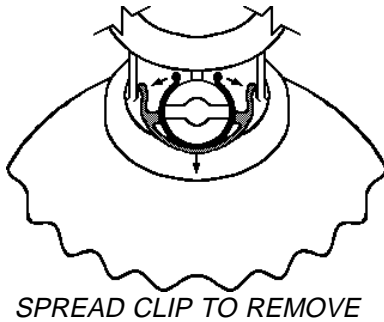
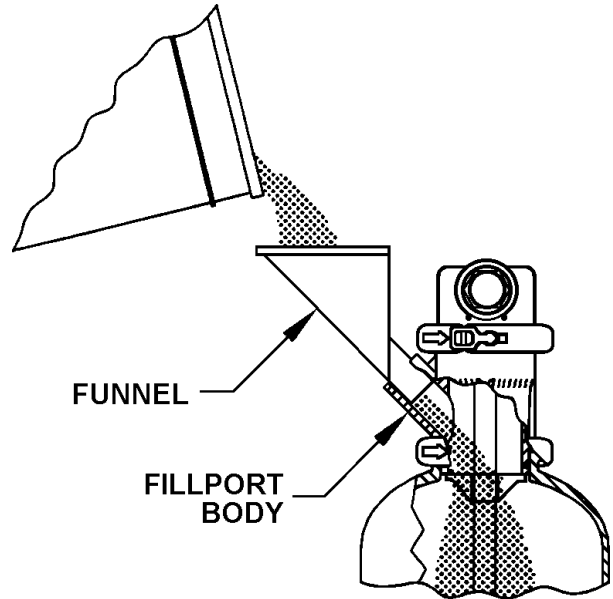

Figure 4. FILLPORT CAP REMOVAL
Figure 5. ADDITION OF FILTER MEDIA
- (1) Allow work space around system and minimum of 24 inches above tank units for loading media.
- (2) Solid lines (————) indicate furnished by Cuno Inc.
- (3) Phantom Lines (— -- —) indicate furnished by customer.
- (4) Installation of plumbing must be as shown on drawing to insure correct flow through filter system.
- (6) After completion of plumbing connections, remove fillport cap (Figure 4) and pour filter media into mineral tank using funnel provided (Figure 5). DO NOT fill tank above the line on the side of the mineral tank. Overfilling the tank can result in filter media entering the service lines. You may have been provided more media than is required for the initial fill. Save this extra media for future replenishment.